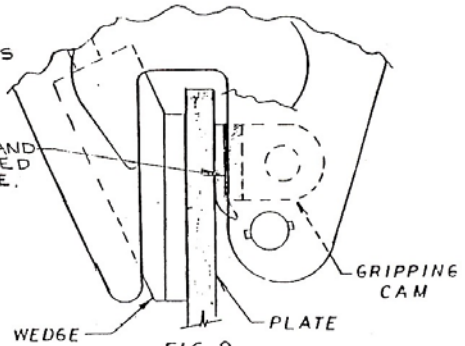

FIG. 9
- E. Check side of the gripping cam - If scribe lines or area painted RED are visible the clamp needs repair or adjustment - Refer to Figure 9, Page 16.